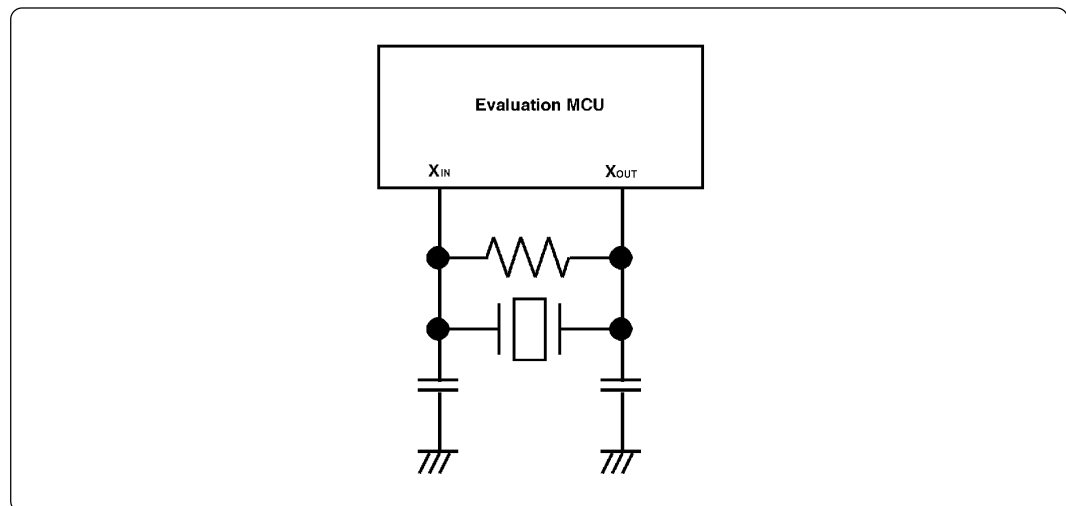

Figure 3.6 Circuit in which oscillation does not occur (same for X_{CIN} and X_{COUT})
In the oscillator circuit shown in Figure 3.6 where a resonator is connected between pins X_{IN} and X_{OUT} , oscillation does not occur because a converter board is used between the evaluation MCU and the target system.
- Make note of the fact that in the oscillator circuit shown in Figure 3.6 where a resonator is connected between pins X_{IN} and X_{OUT} , oscillation does not occur because a converter board and other devices are used between the evaluation MCU and the target system. It is same for sub-clock oscillator circuits (X_{CIN} and X_{COUT}).